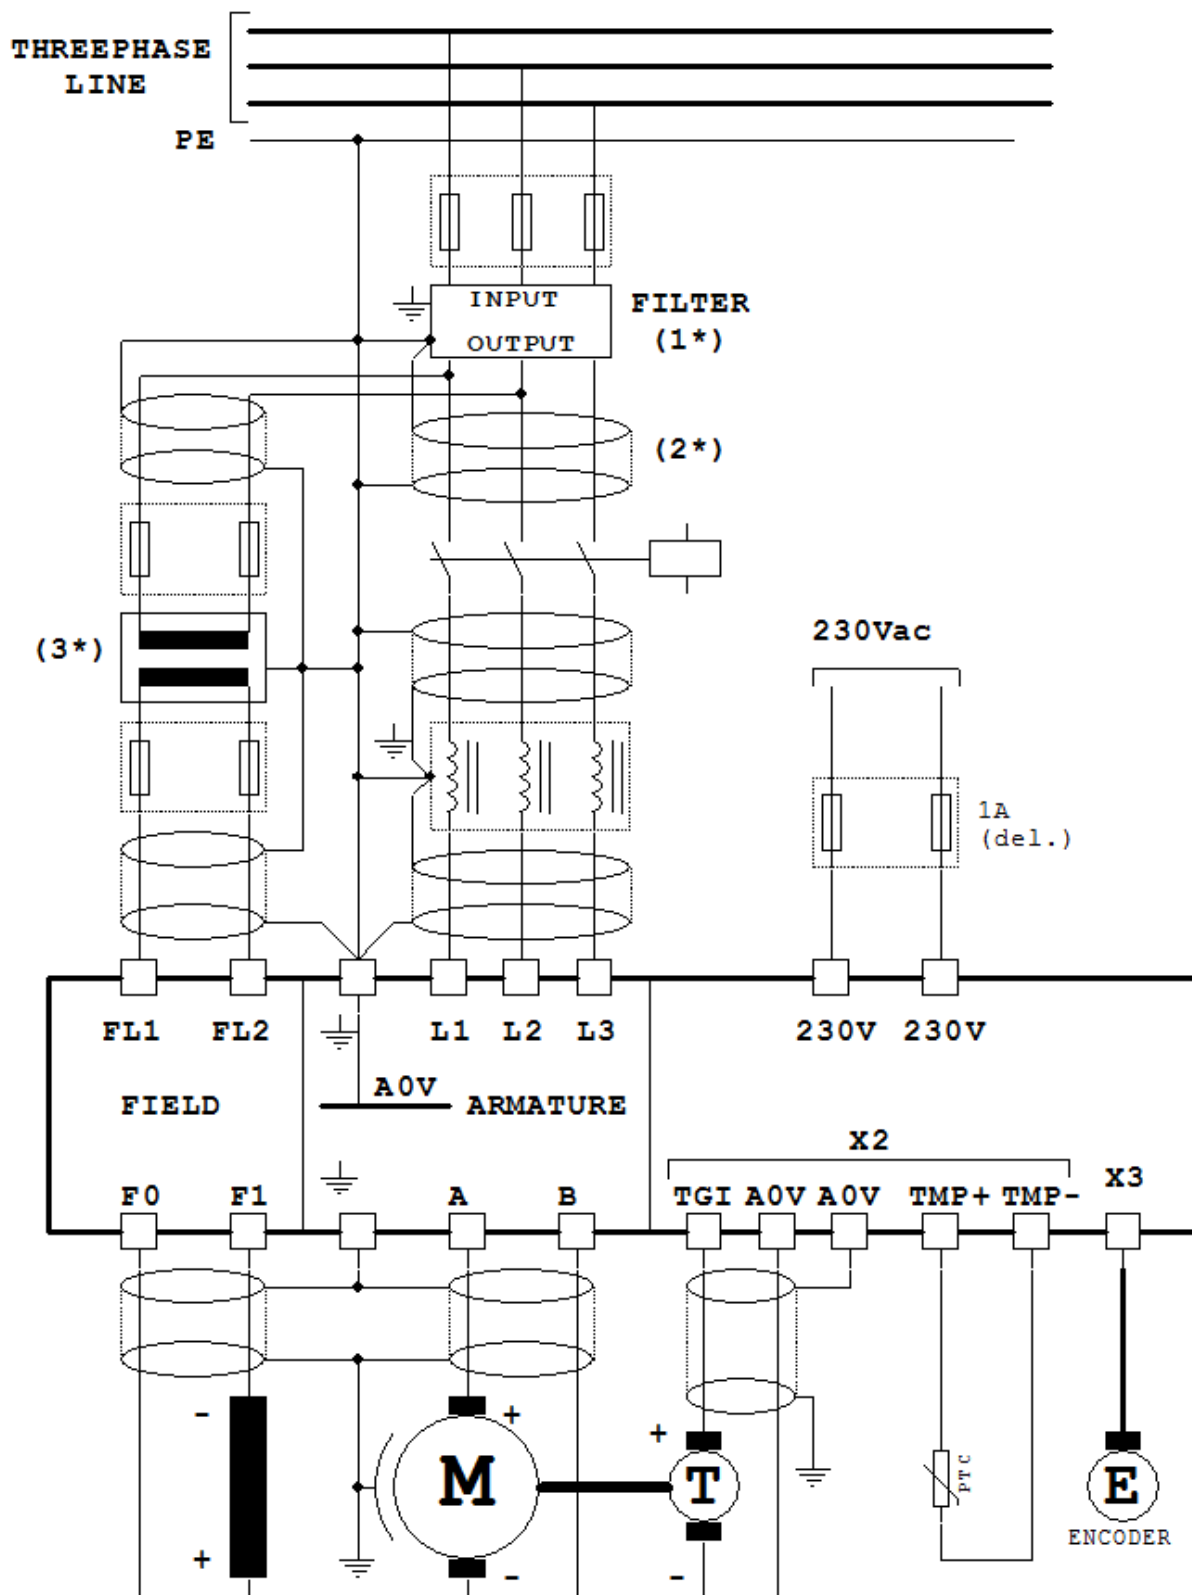
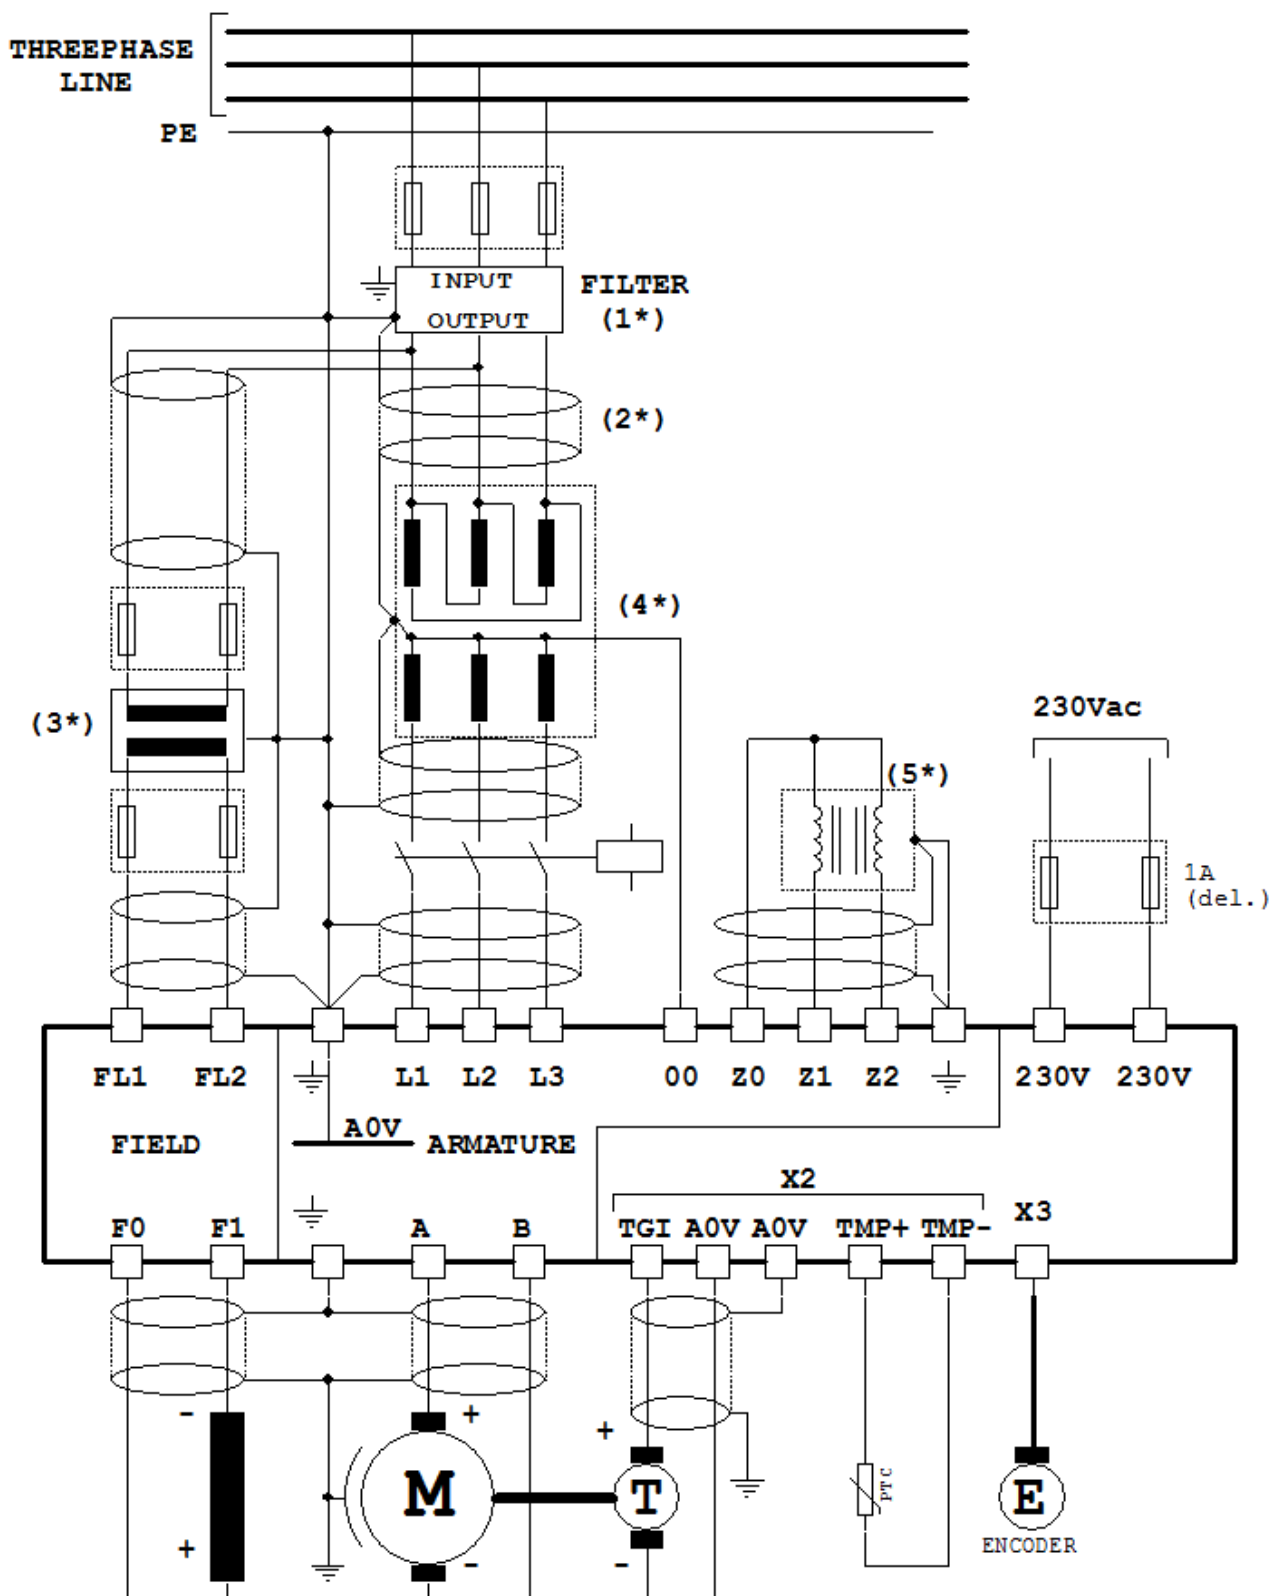

Figure 3: Power Connections for drive 12IRD, 6ID
Figure 4: Power Connections for drive 6AXD
*With positive speed reference on the inputs AI1+ or AI2+ the polarity of the armature voltage, field and tachogenerator are those indicated in the Figure 3 e Figure 4.*
4\*: Only for the model 6AXD the use of a three-phase Triangle / star transformer with an accessible star center connected to earth is essential. The transformer secondary must be connected as in Figure 4. A single transformer can be used to supply several drives connected in parallel: in this case it is necessary to provide a set of fuses for each drive with the current size compatible with the data indicated in the Table 4 (page 9), connected to the corresponding terminals L1, L2, L3.
5\*: Only for the model 6AXD it is essential to the use of a double d.c. inductance single-phase (or two single-phase inductances) connected to terminals Z0, Z1, Z2 as drawn in Figure 4.